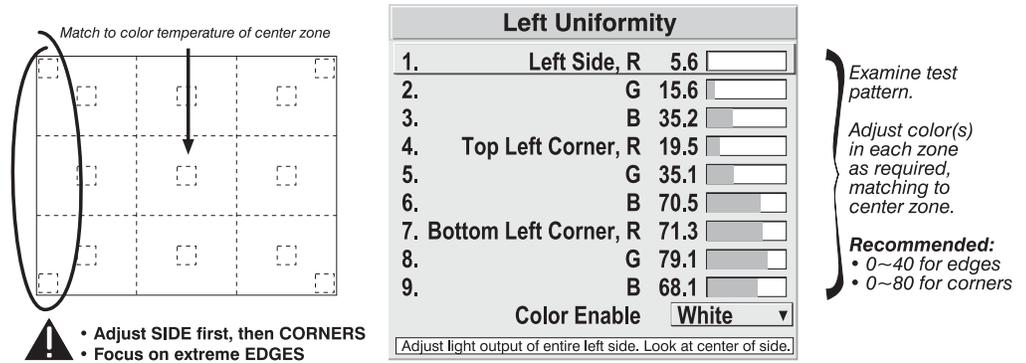

Figure 3.36. Match Zones to Center Color Temperature
- 2b) Return to the *Brightness Uniformity* menu. Beginning with the screen that exhibits the most obvious color shift(s), for each edge that exhibits a noticeably different color temperature from the center, select the corresponding *Uniformity* adjustment menu—*Left*, *Right*, *Top* or *Bottom*. For example, if any part of the left side is too blue, too red or too green, go to the *Left Uniformity* menu and adjust the colors (i.e., change their light output) until all portions of the left side closely match the center color temperature. Adjust an edge first (focusing on its center), then adjust its corners. See Figure 3.36.